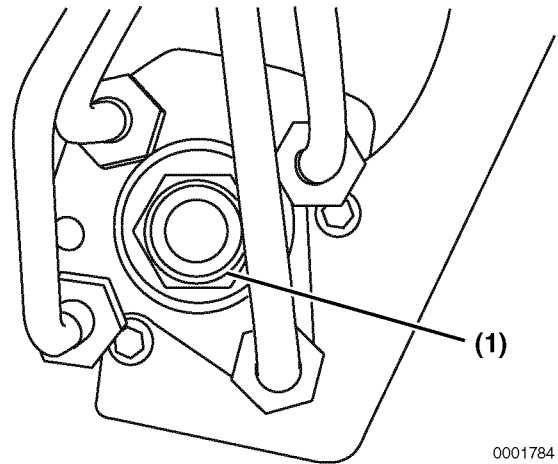

Figure 7-56
2. Remove the center bolt (**Figure 7-56, (1)**) and sealing washer from the rear of the fuel injection pump.